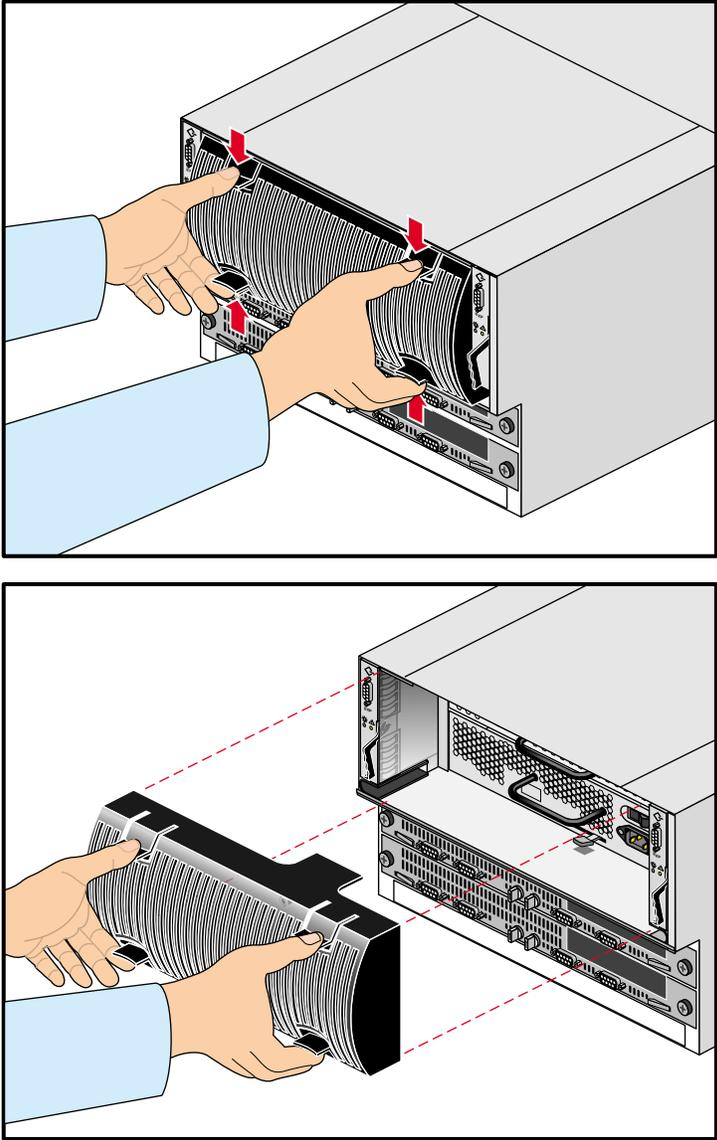

Figure 4-5 Removing the Disk Module Fan Assembly
4. While keeping a thumb on each of the already loose latches, grasp the set of squeeze latches on the opposite side of the assembly with your fingers and pull them in toward the middle of the assembly and outward, see Figure 4-5.
The power supply modules are located behind the fan unit in the Origin FibreVault or fibre channel RAID enclosure, as was shown in Figure 4-5. This procedure's steps are only fully applicable when the vault has dual (redundant) power supplies. If there is only one supply installed, the FibreVault or fibre channel RAID enclosure shuts down if the supply fails.
3. Grasp the fan assembly by the handles on either side and pull it out to expose the power supply (bay), as shown in Figure 4-5.